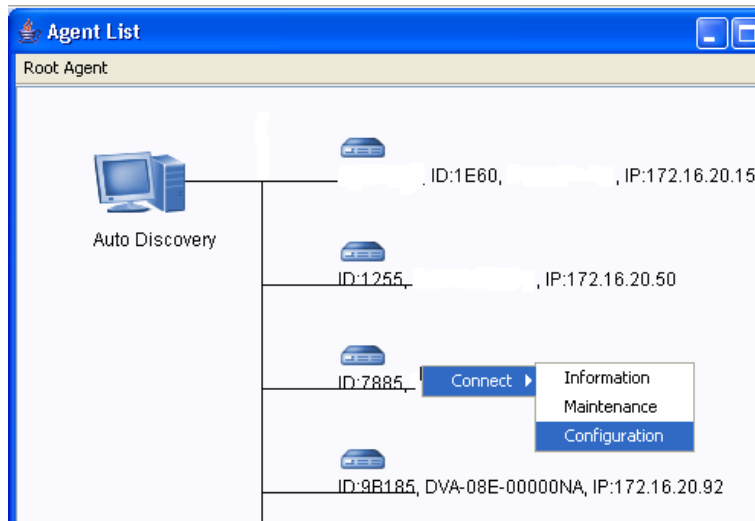

Fig. 6.5 Retrieve IP List: IPs Managed by Root Agents
1. If you would like to see the available RAID subsystems that are connected to the network or a specific root agent, you may click the *Show Root Agent List* button on the bottom of the Bosch RAIDWatch Connection window. The window displays the tree tables of the available RAID systems that are detected by Auto Discovery function. An example of an Agent List window is shown in *Figure 6.5*.